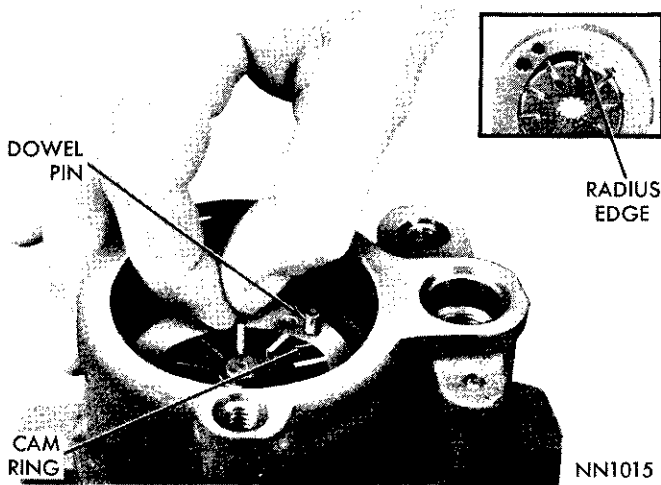

Fig. 15—Installing Rotor Vanes
(9) Install ten vanes in rotor slots with radius edge facing out towards cam ring inner surface (Fig. 15).